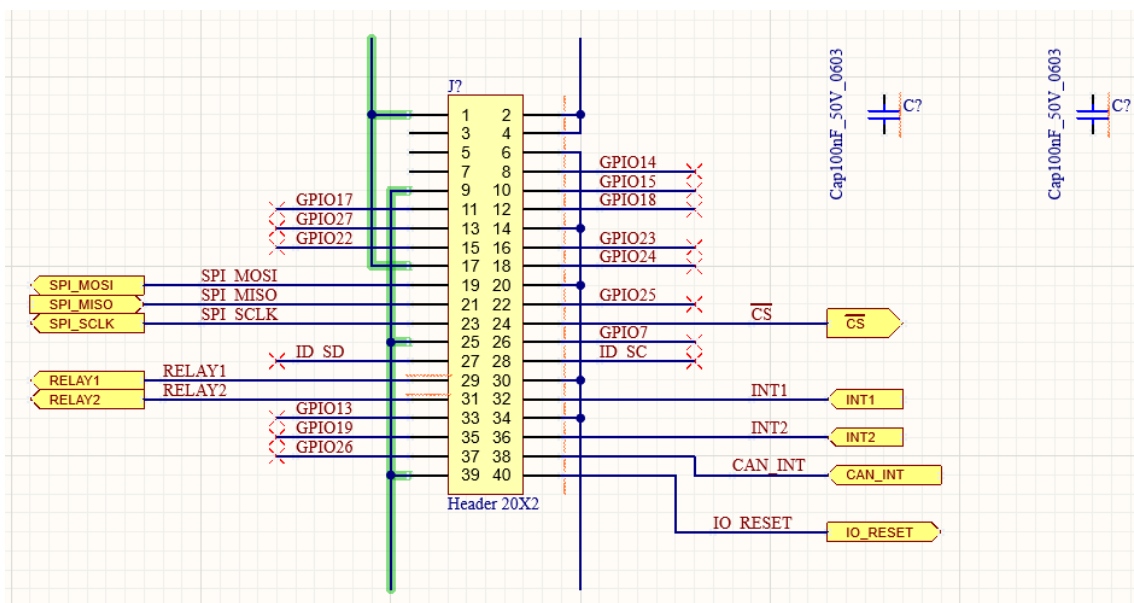

Figure 11. Wiring for component J4
- g) Place a small segment above pin as shown in Figure 11, to which you will add a power port later in this exercise.
6. Using Figure 11 as reference, connect Pins 9, 25 and 39 together using the method described above.